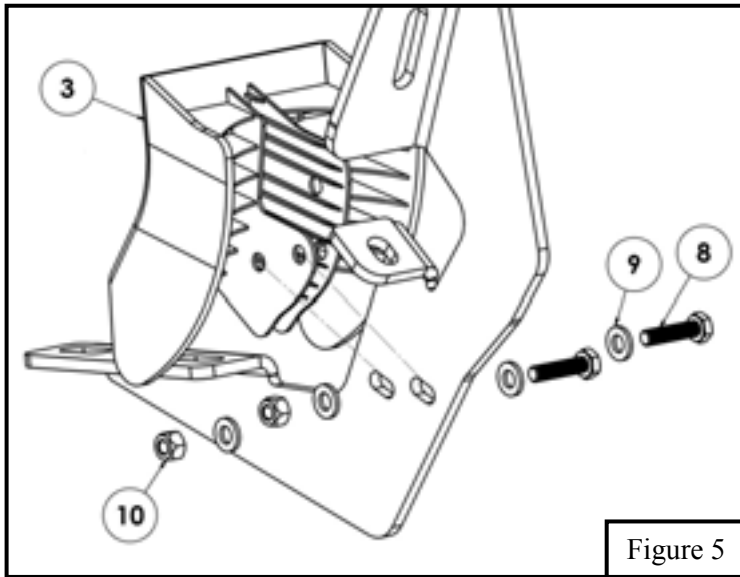

Figure 5
7. Locate (1) Plastic Bracket Cover (Item 3) and loosely secure it to the (6) brackets using the provided hardware: (2) M6 hex head bolt, (4) M6 flat washer, and (2) M6 nylon lock nut. Repeat for every bracket. See **Figure 5**.